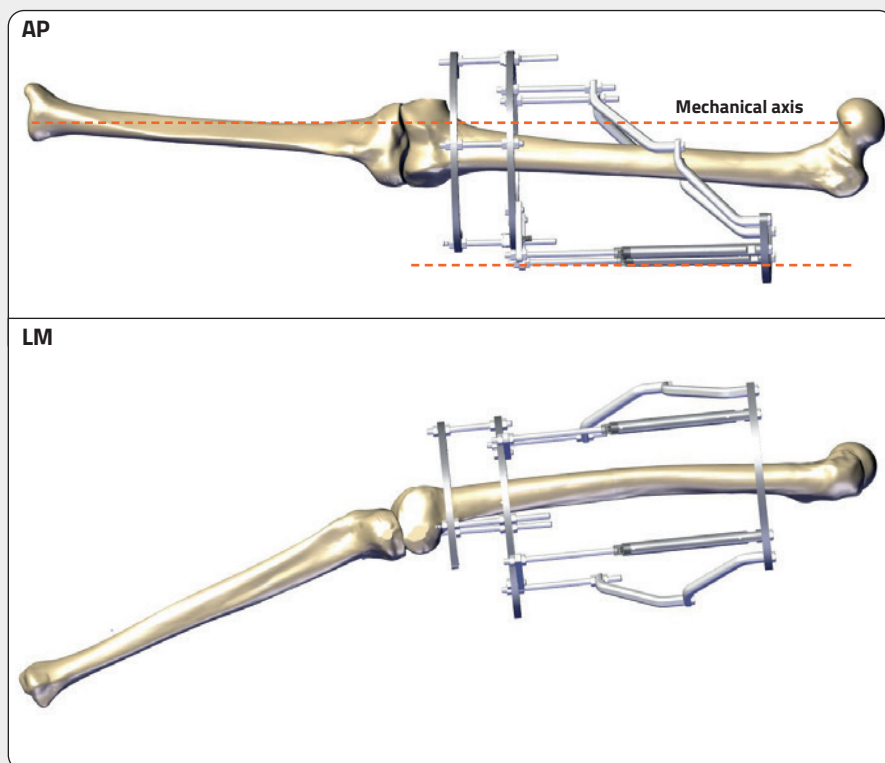

Fig. 5
- Insert the femoral Ring block on the patient leg as shown in Fig. 5.